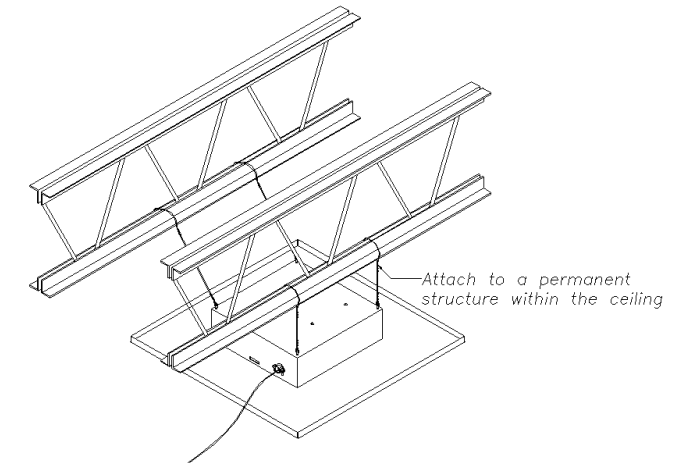

Figure 4
Step 3 – Use minimum 12-gauge support wire (included) to support the backbox independently of the ceiling grid. Attach one end of the wire to the support wire tabs located along the edge of the back box and the other end to a permanent supporting structure within the ceiling (Ref. Figure 4).